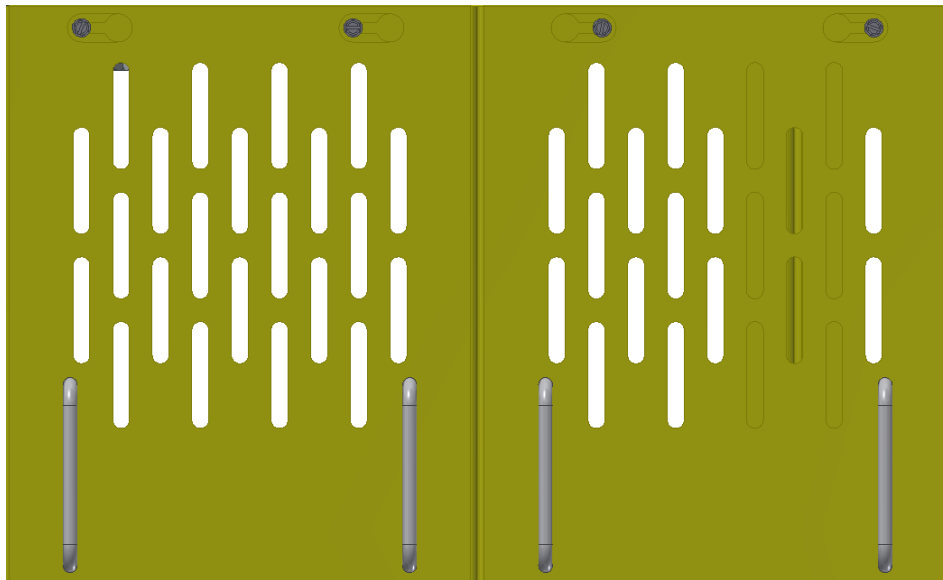

Figure 24: Machine Guard Motor Panel Attachment
- Attach the Machine Guard Motor Panels (p/n's _ _-239 & _ _-240) and tighten the #10-24 screws as shown below (Figure 24).